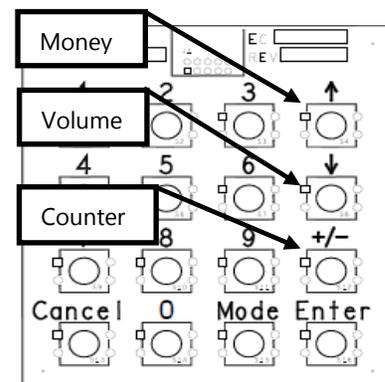
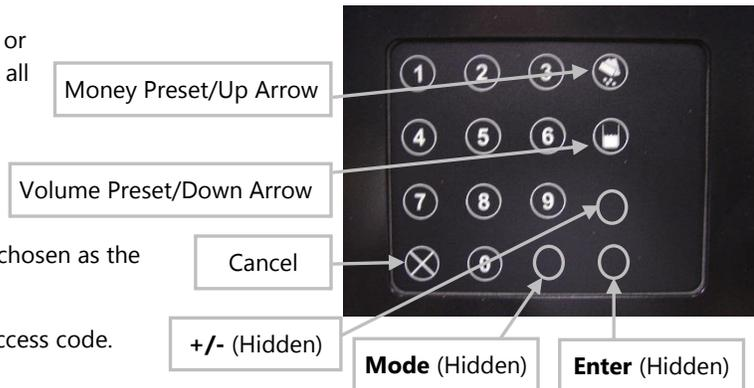
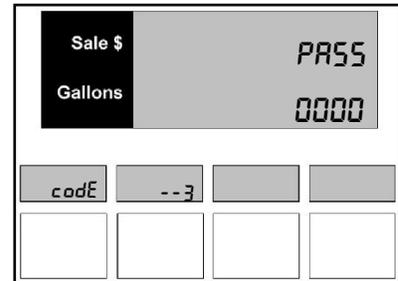

Figure 3.4 – Manager's Keypad
Figure 3.5 – New Access Code Entry
Figure 3.6 – New Access Code Entry
4. Press the ↑ button as shown in *Figure 3.4* or as shown in *Figure 3.5*. The display shows all zeros as seen in *Figure 3.6*.